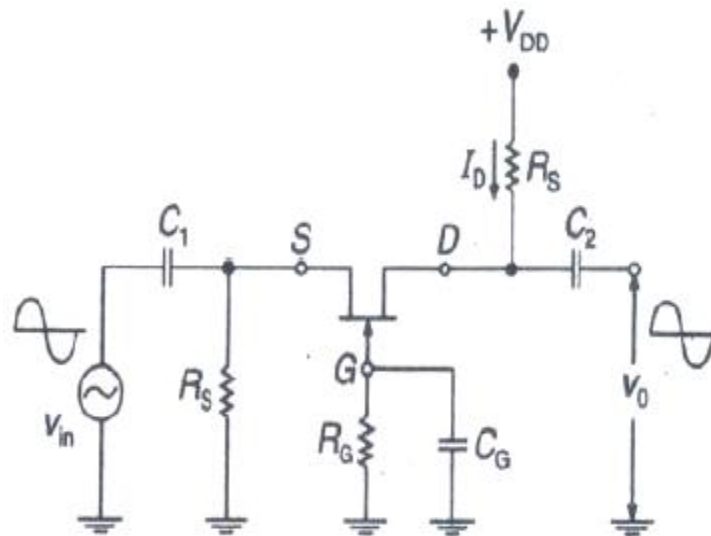

Fig. 5.8 Common gate amplifier
- Figure 5.8 shows the circuit of a common gate amplifier.
- This circuit has been obtained from the amplifier circuit shown in Figure 5.8 by short-circuiting the capacitors and the d.c. supply.